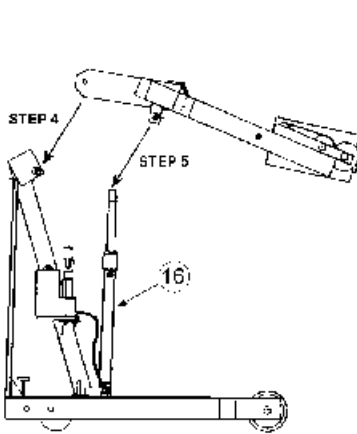

FIGURE 3
**Step #4:** Lift overhead assembly into position. A drift pin can help align the holes. Insert a greased clevis pin (item 12) through mast cap and boom. Install a 5/8" washer (item 9) and 3/16" roll pin (item 8) in the end of the clevis pin. See figure 3.